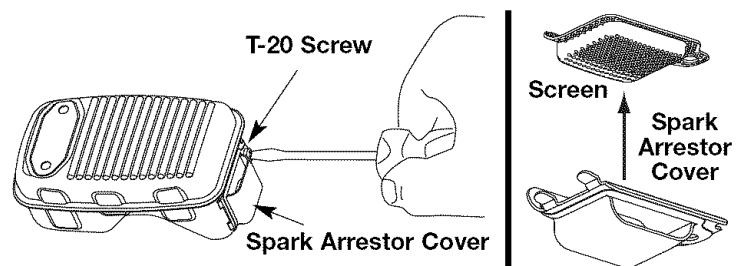

Fig. 28
3. With a flat blade screwdriver or Torx T-20 bit, remove the screw attaching the spark arrestor cover to the muffler (Fig. 28).
5. Remove the spark arrestor screen from the spark arrestor cover (Fig. 28).